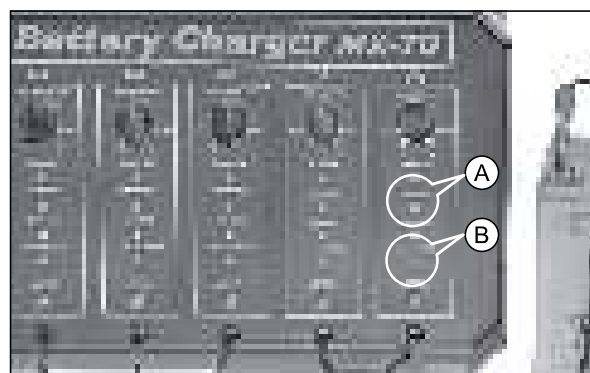

Fig. 5.98
- Now, the 'CHARGING' LED indicator (A) glows and indicates the battery is getting charged. If this indicator is not glowing, check whether 'LO-BATTERY' LED indicator (B) is glowing. (Fig. 5.98)